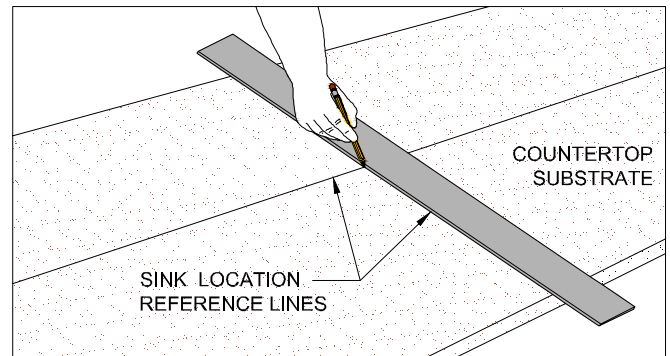

Figure 5A
- Locate where sink is to be installed on the substrate and draw reference lines. (FIG. 5A)